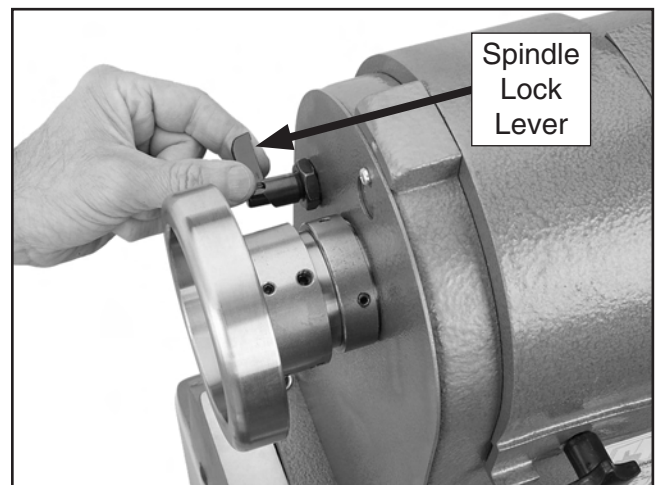

Figure 10. Unlocking the spindle.
4. To unlock the spindle so that it can freely rotate in the next steps, pull the spindle lock lever out and rotate it so that it is in the twelve o'clock position, as shown in **Figure 10**.